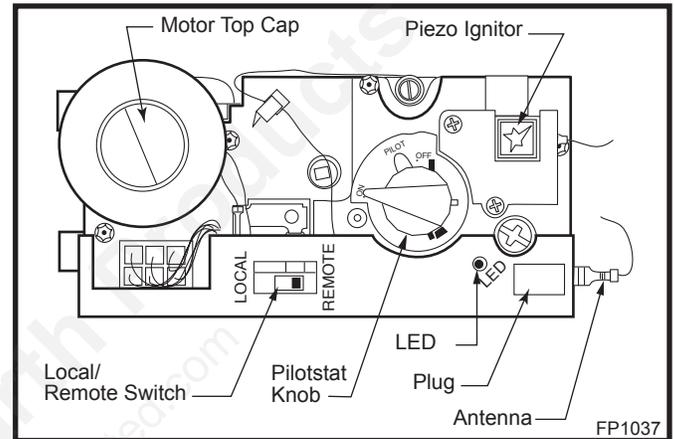

Fig. 74 Comfort control valve.
3. Remove and replace plug on lower right hand side of the valve; Red for LP and blue for NG. (Fig. 74)